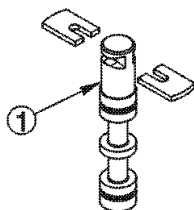

FIG. 1
- Hold shuttle spool (item 1) upright and align slot 1 in detent legs (item 2) with notch on shuttle spool, see Fig. 1.